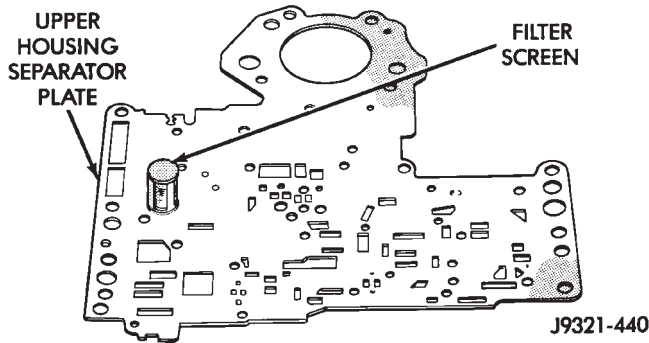

Fig. 129 Separator Plate Filter Screen Installation
- (2) Install filter screen in upper housing separator plate (Fig. 129).